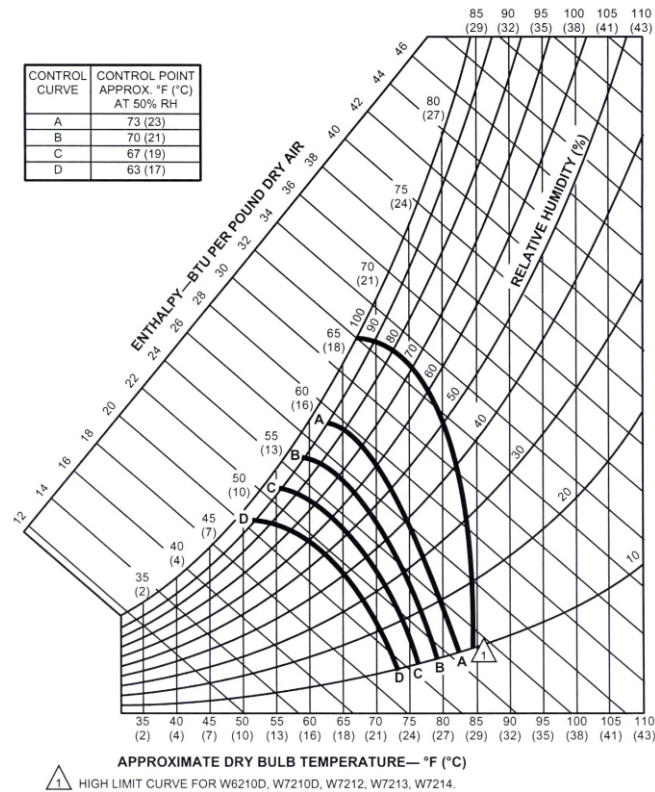
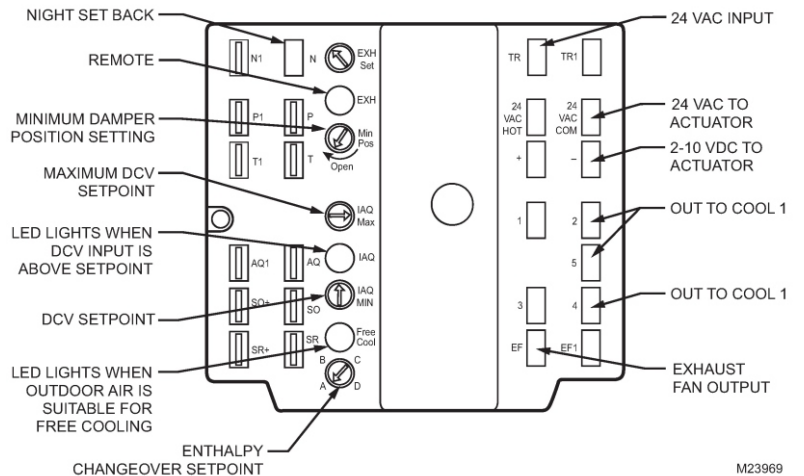

Figure 4
Figure 5
The C7400A enthalpy control senses both temperature and humidity or the heat content of the outside air. It controls the amount of outdoor air brought into the system. When the heat content of the outside air is below control setpoint, the control modulates outdoor dampers to meet cooling needs of the building. When the heat content rises above control setpoint, the control closes outdoor dampers to minimum position. The recommended setpoint is "A". If Economizer is allowing air which is too warm or too humid to enter the system, control may be changed to a lower setpoint (B, C, or D). Refer to Figure 4 and Figure 5.
4. Disconnect mixed air sensor from the W7212 terminals T and T1 and short terminals T and T1. See Figure 5.